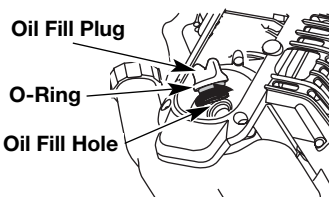

Fig. 10
3. Remove the oil fill plug from the crankcase (Fig. 10).